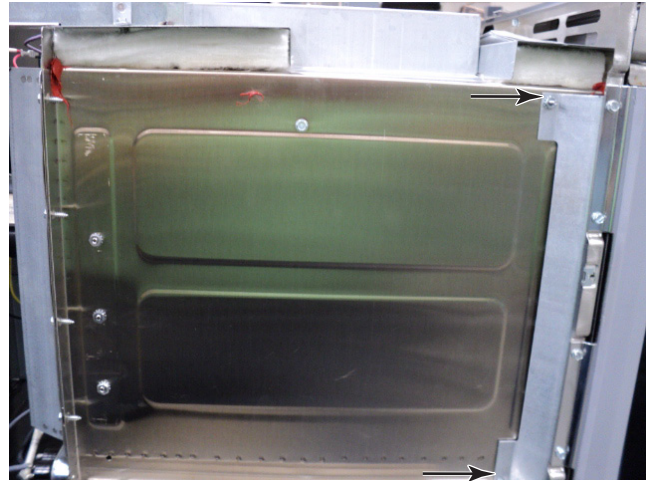

Figure 16
18. Remove two screws and nuts holding hinge support bracket to cabinet and remove bracket to expose oven rack support nuts. (Figure 16).